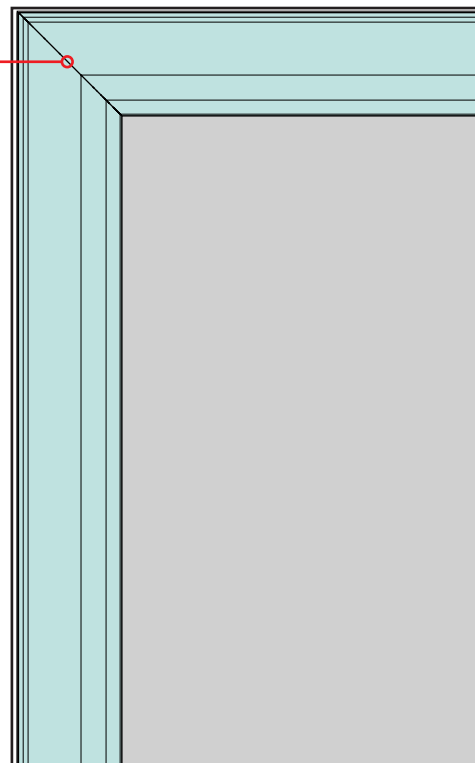

Figure 24
3. Stick the sealing profiles to the right and left of the glass pane (Fig. 24).
- **Ensure that all corners are assembled without a gap (Fig. 24)!**